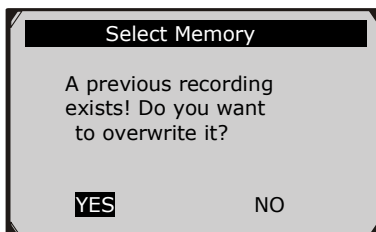

Figure 5.23
- If you select a location marked with an asterisk (*) icon, a message prompting to overwrite old recording is displayed.(Figure 5.23)